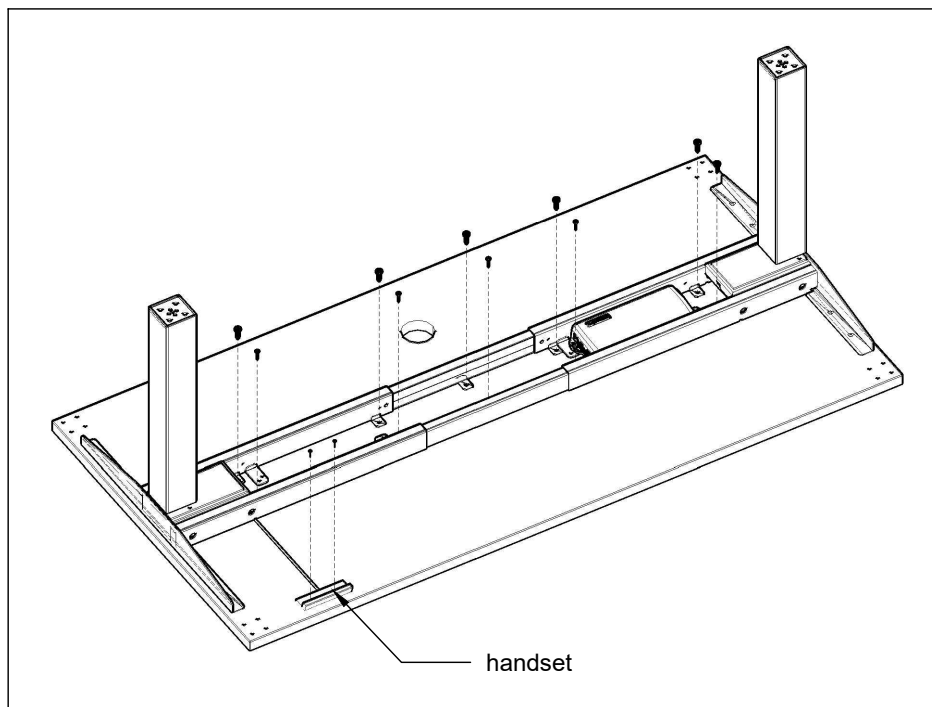

FIGURE 12
12. Tie up the tailstock screws at the inner side of the main frame (Figure 12).